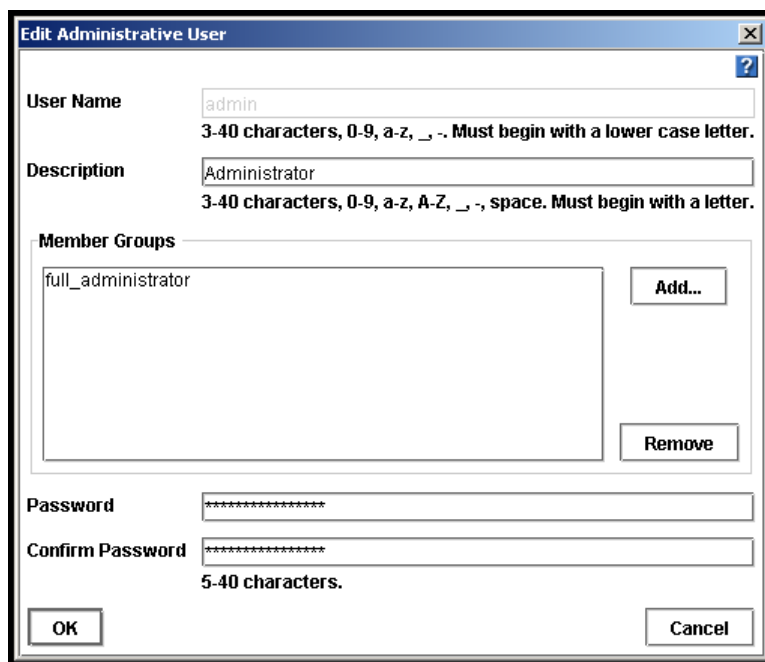

Figure 90. Editing an Administrative User
4. Click Edit. The Edit Administrative User window opens, shown in Figure 90.